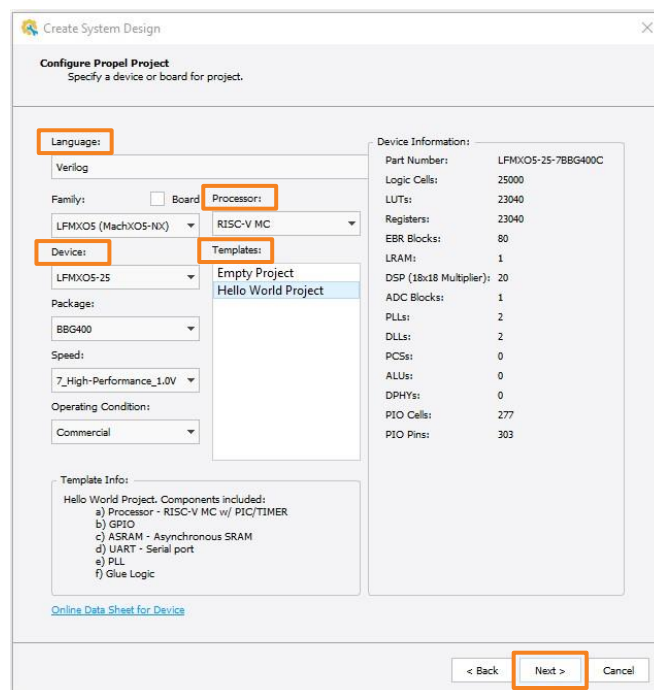

Figure 3.2. Propel Builder – Device and Template
2. The **Configure Propel Project** window will be displayed, as shown in Figure 3.2. In this window, select the **Language**, **Device**, **Processor**, and **Template** then click **Next**.